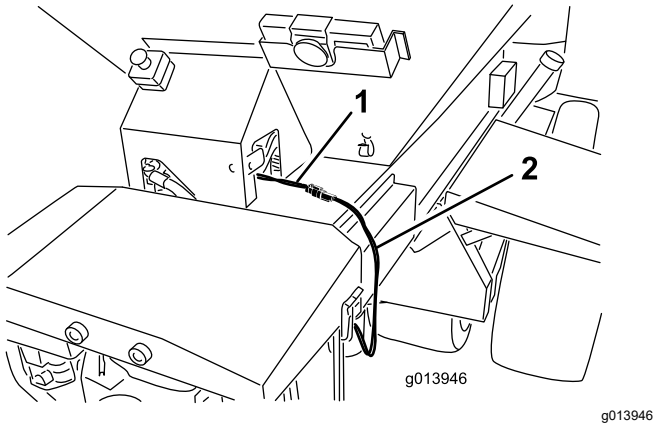
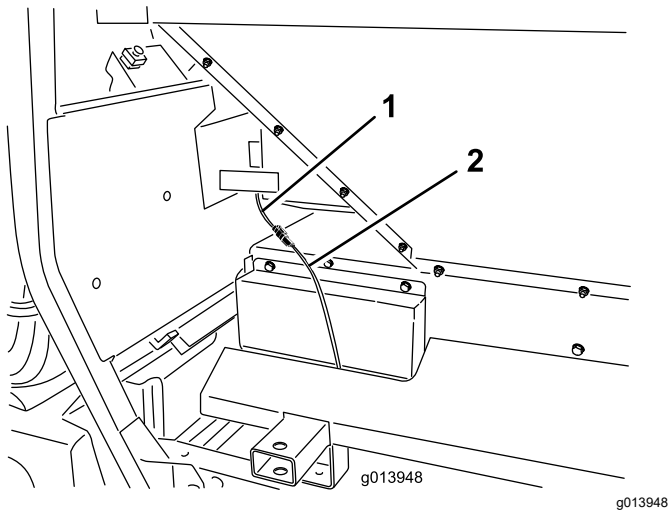

Figure 18
Figure 19
3. Plug the intermediate wire harness into the power harness connector on the machine (Figure 18 or Figure 19).